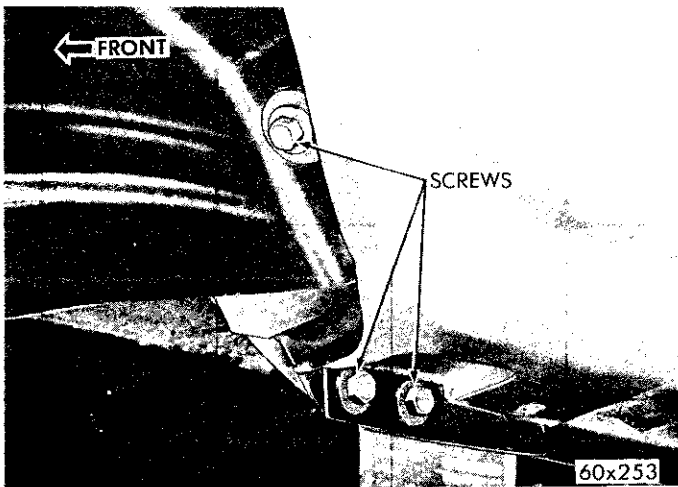
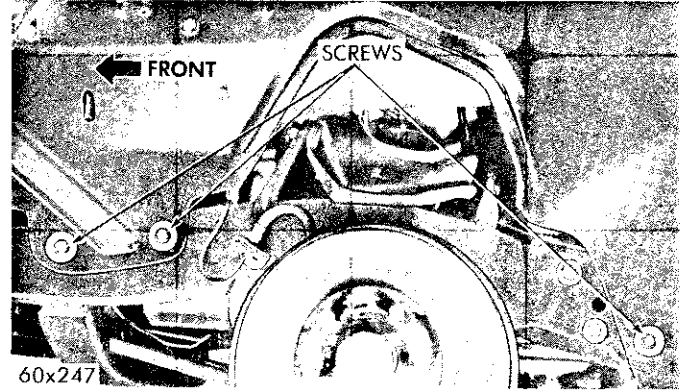

Fig. 8—Splash Shield to Body Frame Mounting
Fig. 9—Splash Shield to Stub Frame Mounting
(8) Remove the splash shield to body frame bolts (Fig. 8) and the splash shield to stub frame bolts (Fig. 9).
(9) Remove the fender to body sill bolts (two each side), (Fig. 8) and the fender to body post bolts.